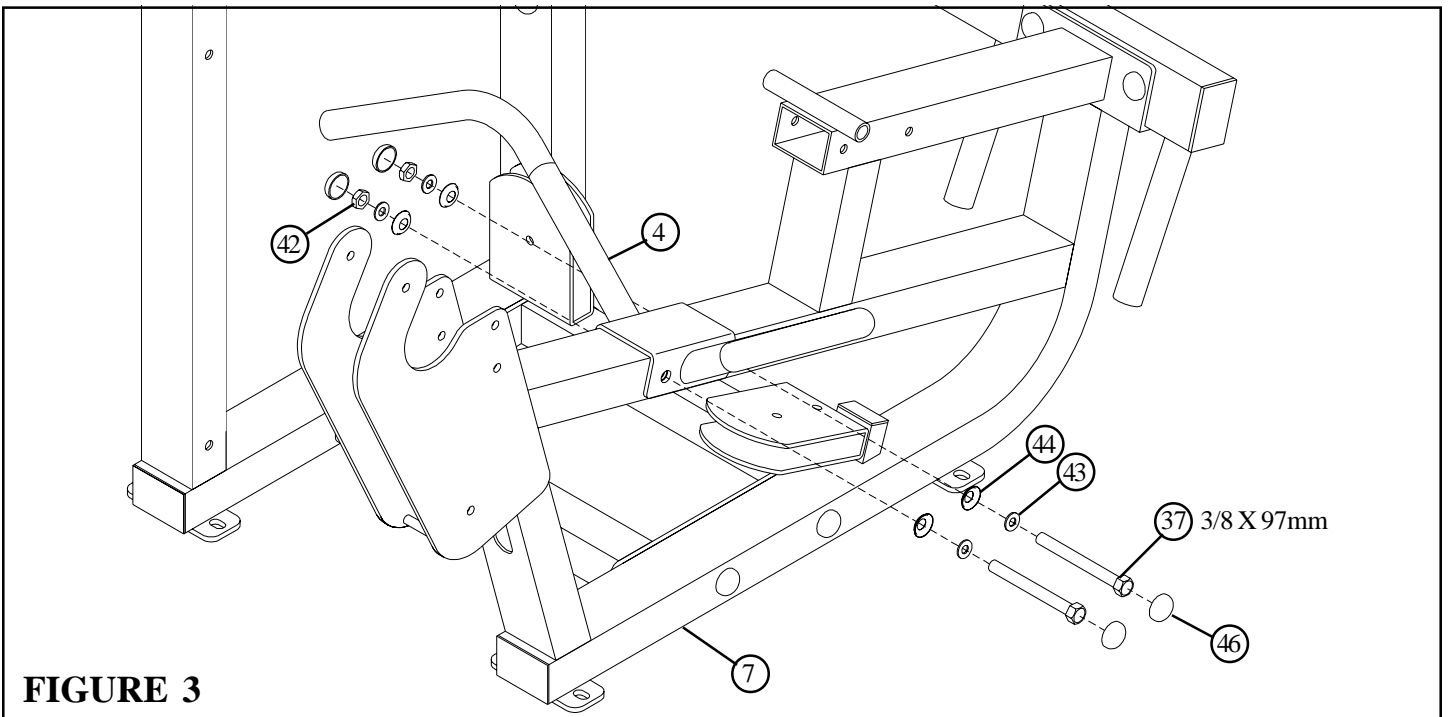

FIGURE 3
- **SECURELY** assemble the HANDLE (4) to the FRAME (7) using four RH CAPS (46), two 3/8 X 97mm BOLTS (37), four 3/8" SAE WASHERS (43), four 3/8" RH WASHERS (44) and two 3/8" LOW HEIGHT LOCK NUTS (42) as shown in FIGURE 3.